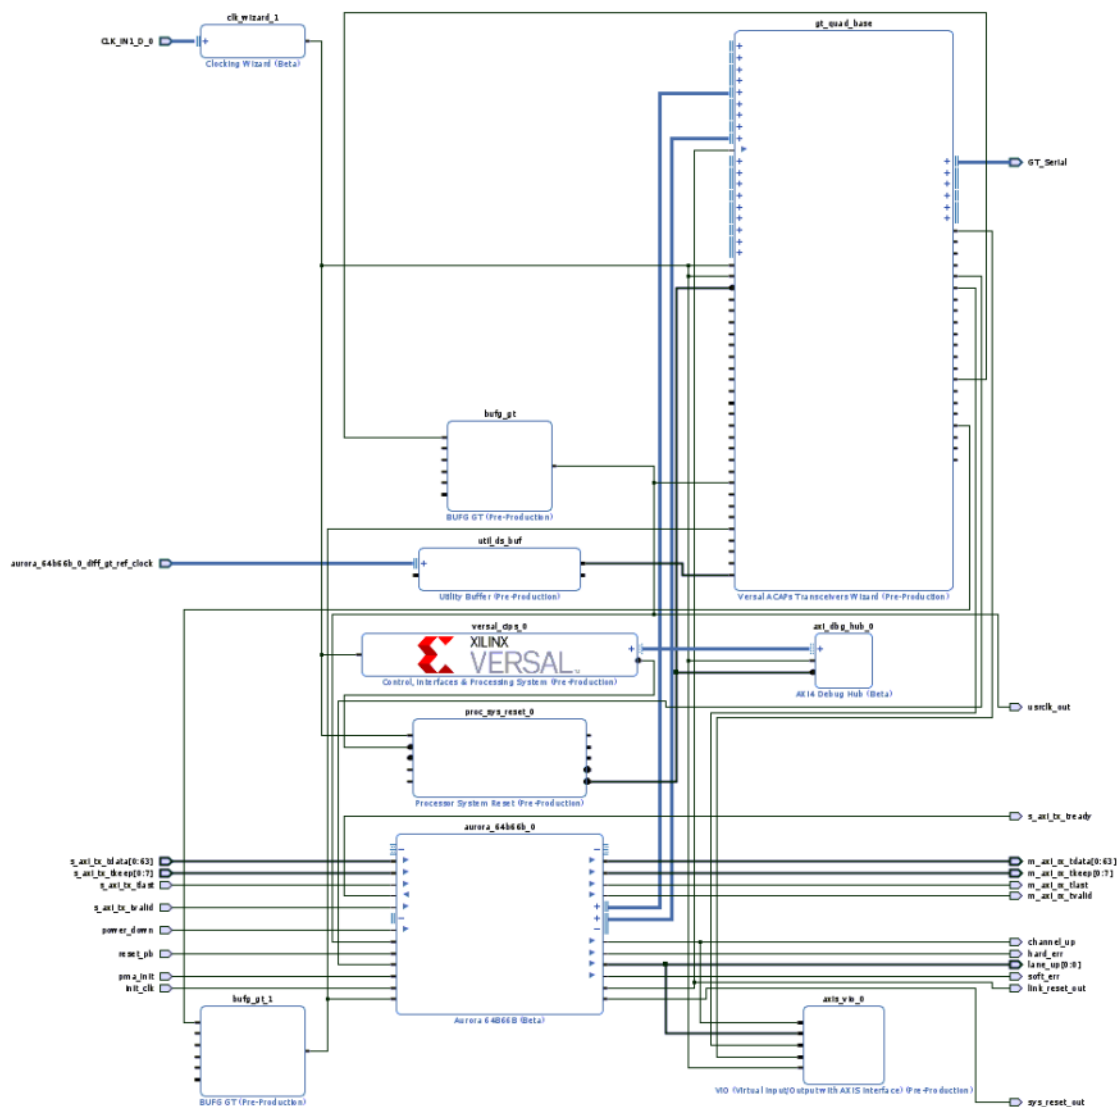
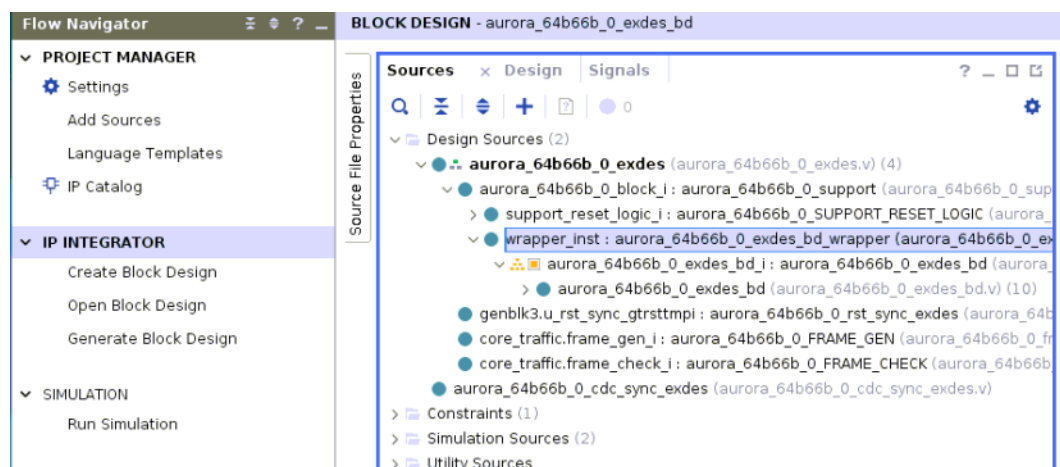

Figure B-1: Aurora Example Design
Figure B-2: Aurora Example Design BD Wrapper
- Generate Aurora IP from Vivado IP catalog, open example design. Versal ACAP Aurora IP example design has an IPI based reference design as shown in Figure B-1. Refer the example design wrapper file <IP_inst_name>_exdes_bd_wrapper as shown in Figure B-2. This wrapper file has the necessary connections between Aurora and gt_quadbase IP. For more information, see *Versal ACAP Transceivers Wizard LogiCORE IP Product Guide (PG331)* [Ref 31].